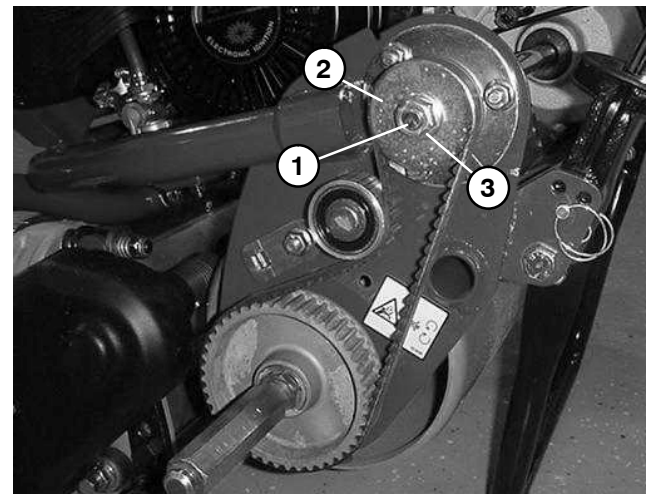

Figure 32
6. Remove flange nut that secures traction drive pulley (Fig. 32) on both sides of mower. Remove pulley washer, pulley and woodruff key from both sides.
9. Apply anti-seize lubricant to bores of traction drive pulleys. Install woodruff keys and place traction drive pulleys onto gearbox axles (Fig. 32). Secure pulleys to axles with pulley washers and flange nuts. Torque flange nuts from 40 to 50 ft-lb (54 to 68 N-m).